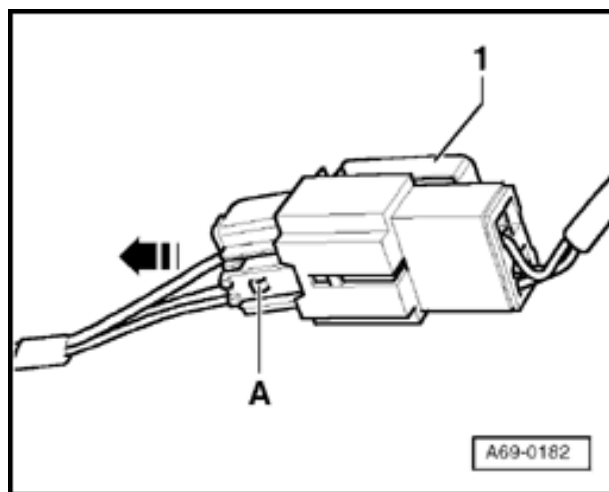

Fig. 2 Disconnecting connector for side airbag from m.y. 1999
- Disconnect igniter and Ground (GND) wire from side airbag: from m.y. 1999 ⇒ Fig. 2 , ⇒ Page 72-65 .